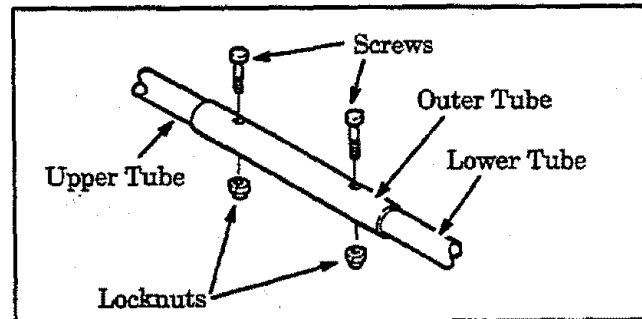

Figure 2
1. Slide the outer tube up the lower tube and over the end of the upper tube until the screw holes are aligned. Figure 2.
2. Insert screws through holes in tubes. Figure 2.